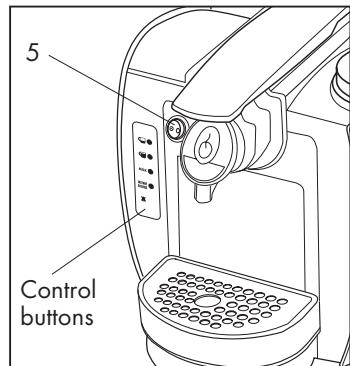

Fig. 4
(Fig.4)
- The control buttons will start flashing; once the right temperature is reached, they will illuminate steadily, indicating that the machine is ready for use **(Fig.4)**.